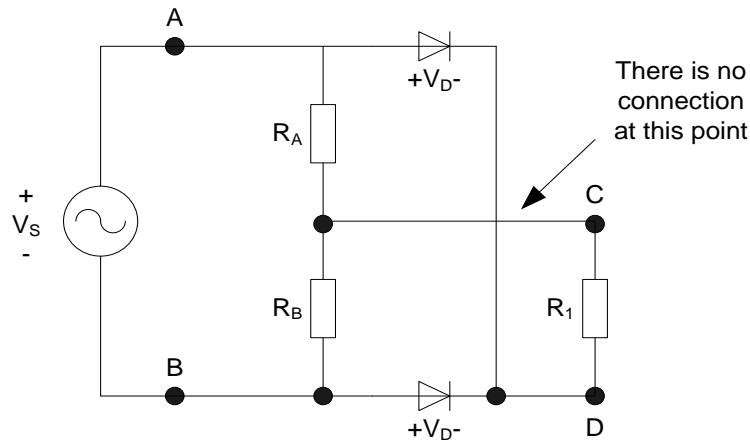

Figure 2: Full wave rectifier circuit
- A full wave rectifier will be constructed by adding a second diode to the circuit as shown in Figure 2 below.